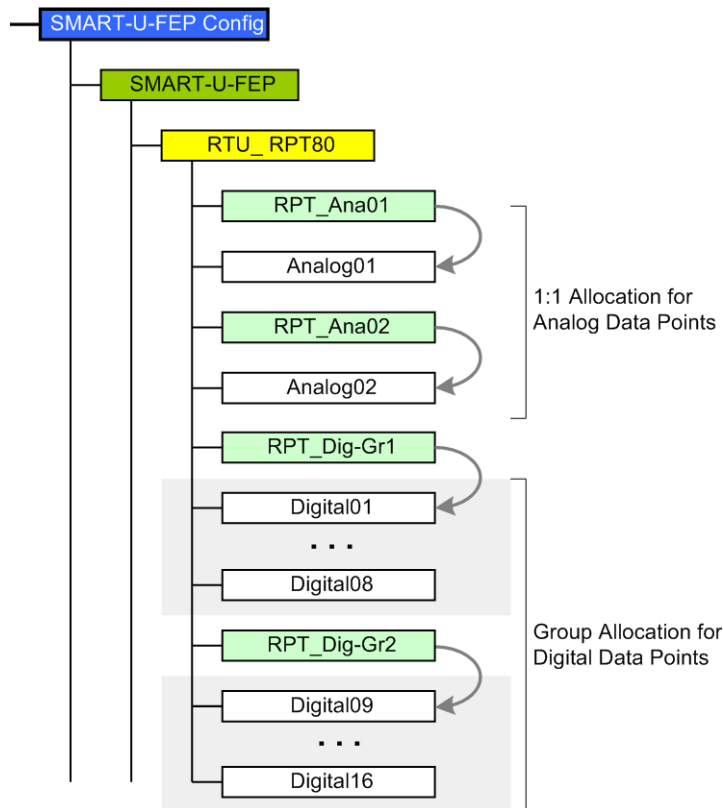

Figure 3-6.14: Protocol RPT80: Data Points, Data Groups and System Links
5. Open tab **Links** and establish system links from protocol instance to data points as illustrated by Figure 3-6.14